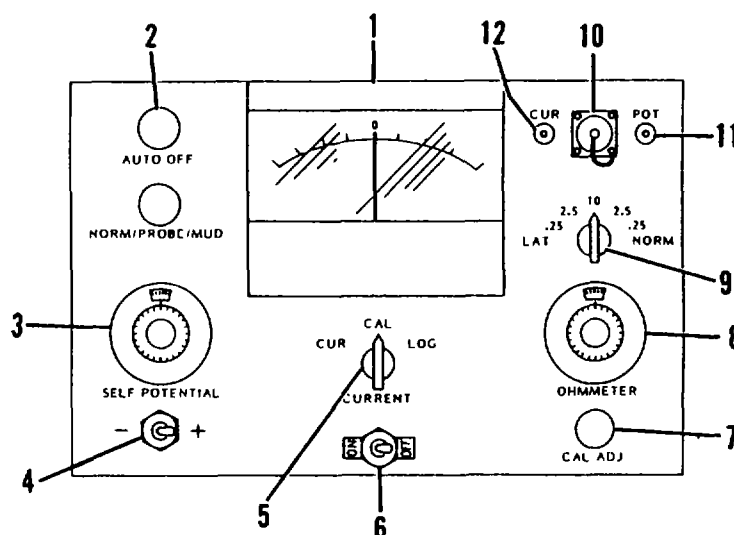

Figure 2-41. Resistivity Instrument
- a. Description. The electric logging system consists of a well probe that is manually lowered down the well and an instrument at the surface that receives electrical information from the probe. The operator takes readings at different points up the well and plots the data on a graph, recording a spontaneous potential (SP) curve, three 'normal' resistivity curves and two lateral resistivity curves.
- (1) The well probe is attached to a 500-foot multi-conductor cable by means of waterproof connectors. The brass current electrode is drilled so that an insulated 'sinker rod' can be attached to the probe, by means of a leather thong, if greater weight is needed to carry the probe to the bottom of the well.
- (2) The probe contains a brass current electrode and three lead-oxide potential electrodes. The potential electrodes are spaced at 0.25, 2.5, and 10 feet from the current electrode. Each electrode is potted in epoxy resin in short lengths of PVC tubing; each is internally insulated from the others; and each is connected to the surface by a separate conductor (wire).
c. Resistivity Instrument. The resistivity instrument uses direct current and is of the 'null' reading type. The instrument reads directly in ohm-feet. The instrument's controls, shown in figure 2-41, operate as described in the following paragraphs.
- (1) Galvanometer. Zero-centered micro-ammeter. All operations involve returning the meter to its zero position.
- (2) SP shut-off switch. Located in upper left corner of the panel. Spring loaded switch to automatically disconnect the circuit from the 1-1/2 volt 'C' battery when the instrument lid is closed.
- (3) Self-potential potentiometer. Balances the spontaneous potential that always exists between any pair of potential electrodes. Do this before making any resistivity reading. Balance is indicated when the galvanometer needle goes to zero. If the SP curve is desired, merely record potentiometer reading. Each small division equals one millivolt; full scale is 1 volt.
- (4) SP Polarity-reversing switch. Located directly below the Self-potential potentiometer; it indicates the polarity of the particular cable electrode being used and enables the operator to change the polarity of the injected voltage as required by bore-hole conditions.
- (5) Function switch. A three-position selector switch located under the galvanometer. Its three positions are: